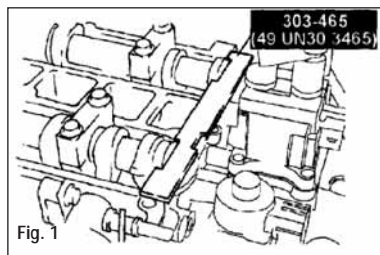

Fig. 1
1) Install the camshaft alignment plate 303-465 to the camshaft as shown in **Figure 1**, below.
From top, **Figures 1 through 4** on replacing a crankshaft pulley on Ford 2.0L and 2.3L engines.